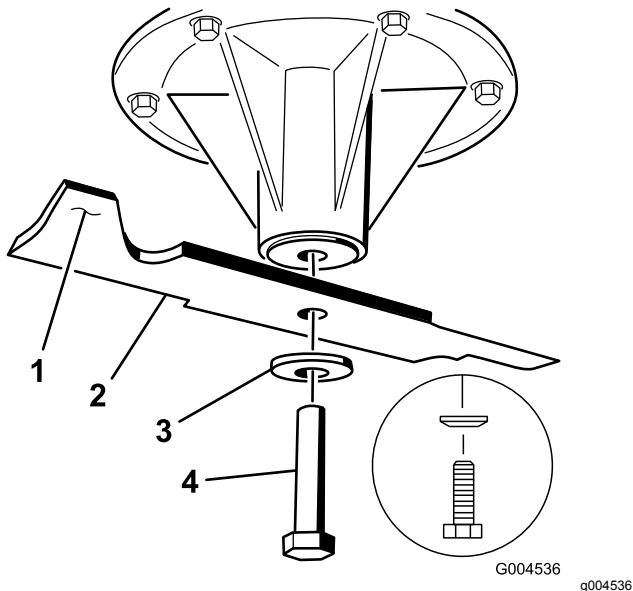

Figure 98
2. Remove the blade bolt, the curved washer, and the blade from the spindle shaft (Figure 98).
3. If the blade is not balanced, file some metal off the end of the sail area only (Figure 98).